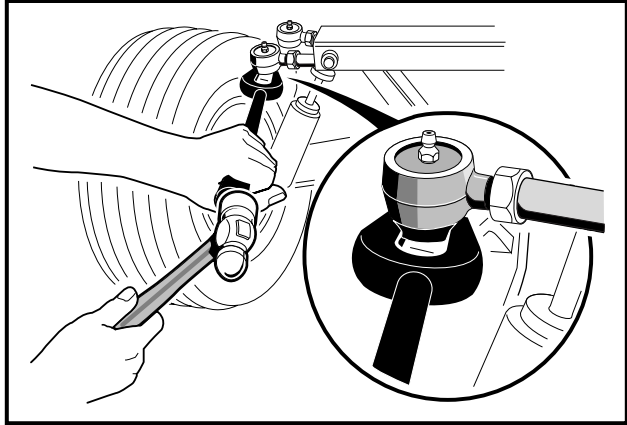

Figure 7-8 Ball Joint Tool
3. Using a ball joint removal tool, remove the ball joint (23) (**Figure 7-12, Page 7-10**) from the spindle assembly. See **Figure 7-8, Page 7-8**.
1. Remove ball joint from the spindle and inspect it for excessive wear (**Figure 7-8, Page 7-8**).